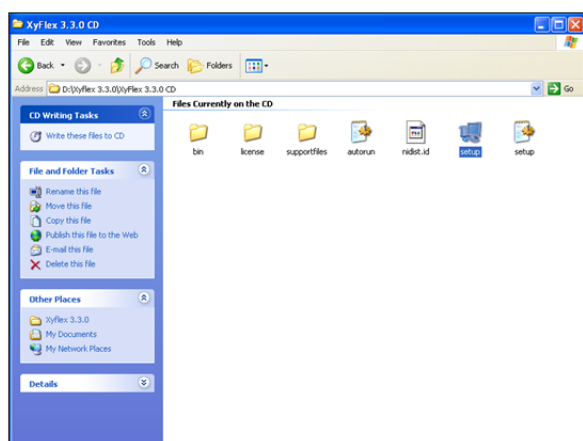

Figure 1. XYFLEX™ CD contents
- 3) Double-click the “Setup” icon (**Figure 1**).